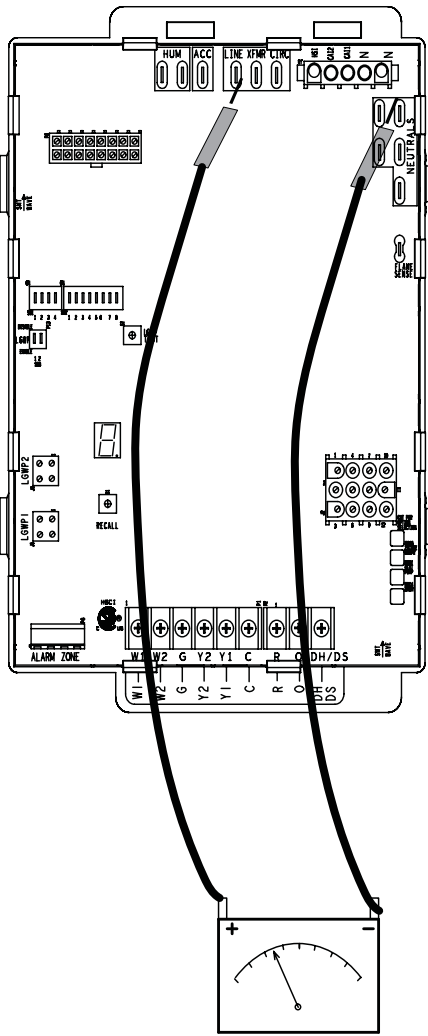

Figure 20.
- 1. Measure the AC voltage between Line Neutral (spade terminals) and “C” terminal (low voltage terminal block) on the integrated control. See **Figure 20**. A wide variation in the voltage between Line Neutral and “C” as a function of load indicates a poor or partial ground. Compare the readings to **Table 15**. If the readings exceed the maximum shown in **Table 15**, make repairs before operating the furnace.
- 2. In addition, measure the AC voltage from Line Hot to Line Neutral (spade terminals) on the integrated control. See **Figure 20**. This voltage should be in the range of 97 to 132 VAC.